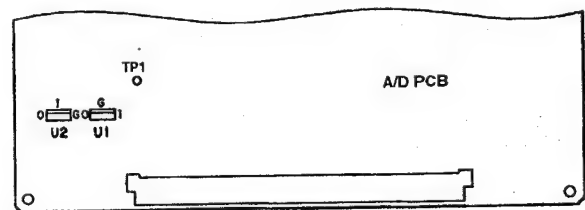

Fig. 2-11
2. Confirming the  $\pm 5$  V (stabilized) power supply on the A/D PCB (See Fig. 2-11).